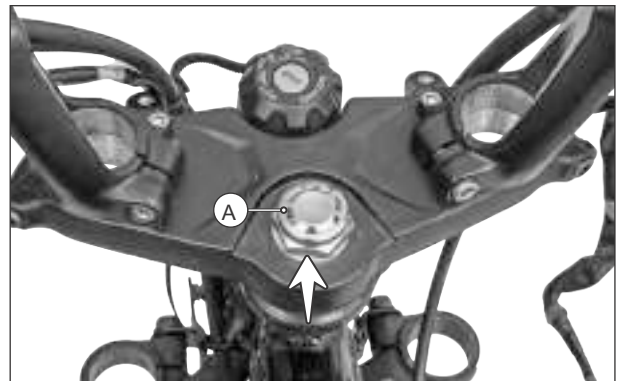

Fig. 6.68
- Take out cap lock nut (A) and remove lock nut steering along with the special washer. (Fig. 6.68)